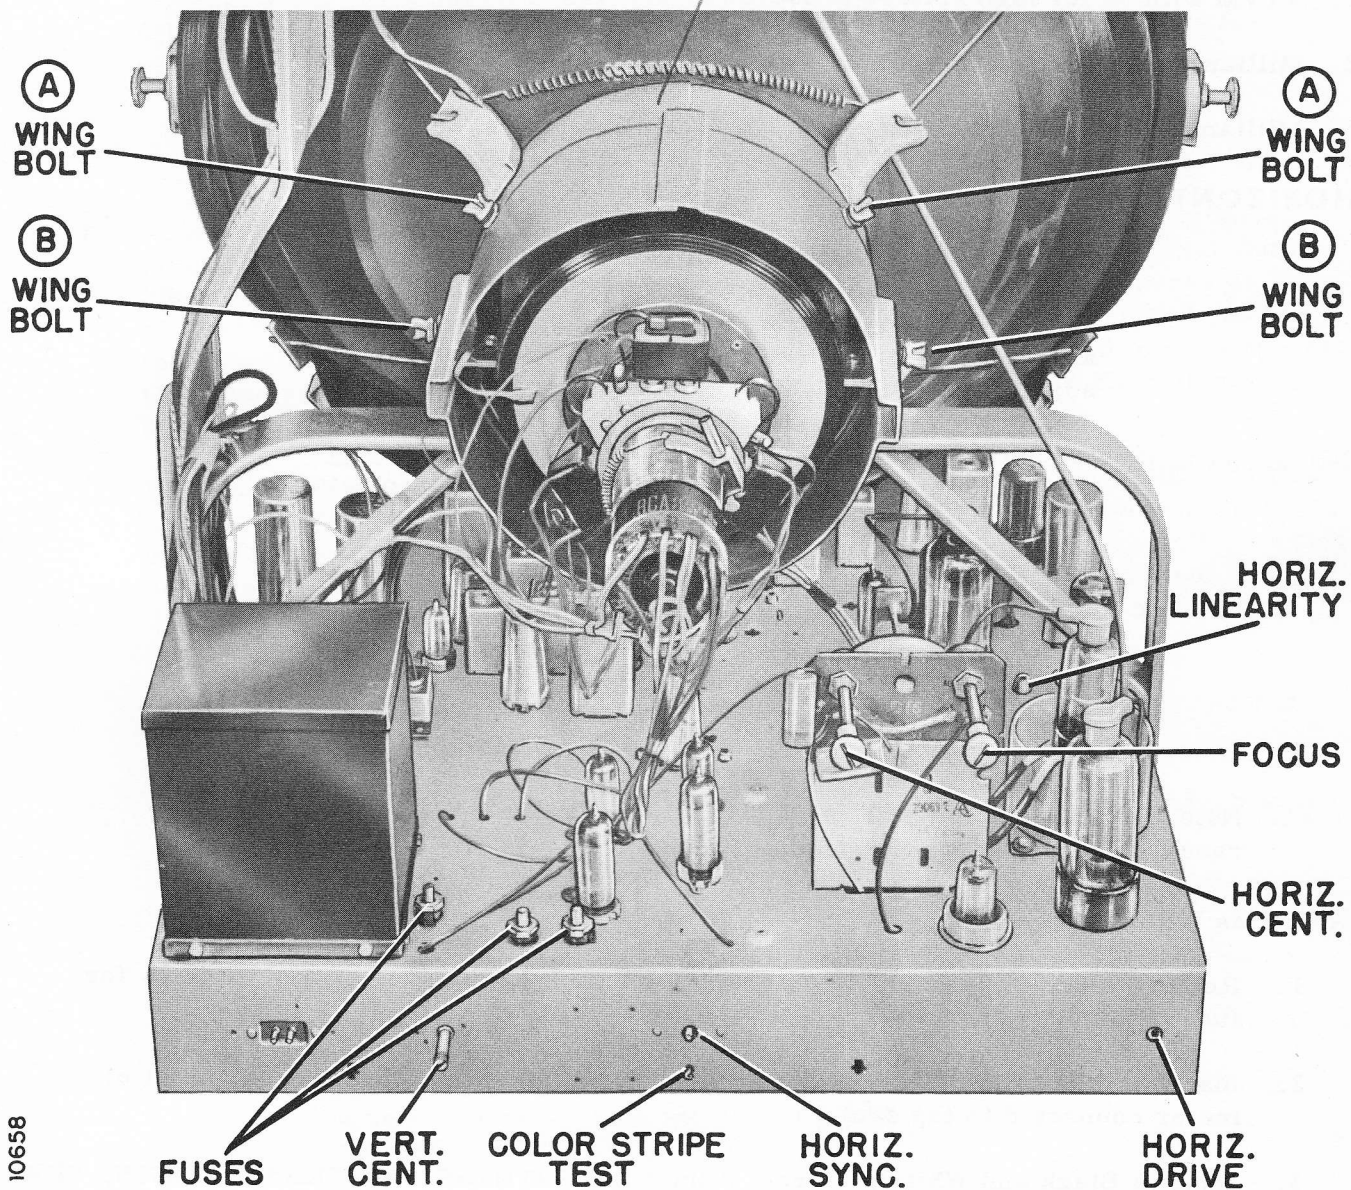

Figure 3. Top Rear View of Chassis Showing Adjustment and Control Locations.
The picture should remain in sync throughout the range of the Horizontal Hold control, even when interrupting the signal by switching on and off station. See Figure 3 for location of Horizontal frequency control.
If raster is tilted, loosen the three wing bolts (A) (see Figure 3) and rotate yoke until picture is straight. Tighten the wing bolts.
Note: Figure 3 shows the location of only two wing bolts (A). The third is located on the same bracket directly underneath the picture tube neck.
Adjust the HORIZONTAL DRIVE control to a point where the white vertical line(s) just disappear, or to maximum if drive lines do not appear. See Figure 3 for control location. Maximum drive is at maximum (completely clockwise) rotation of the control.
Adjust for proper horizontal and vertical centering. See Figure 3 for control locations.
A line voltage of 117 volts should be maintained during this adjustment. See Figure 3 for adjustment locations.
13. Loosen screws "B" (see Figure 3). Move the yoke back and forth and rotate each PURITY RING going back and forth from one to the other until the purest red raster is obtained over most of the screen area (particularly over the central, top, and bottom areas).